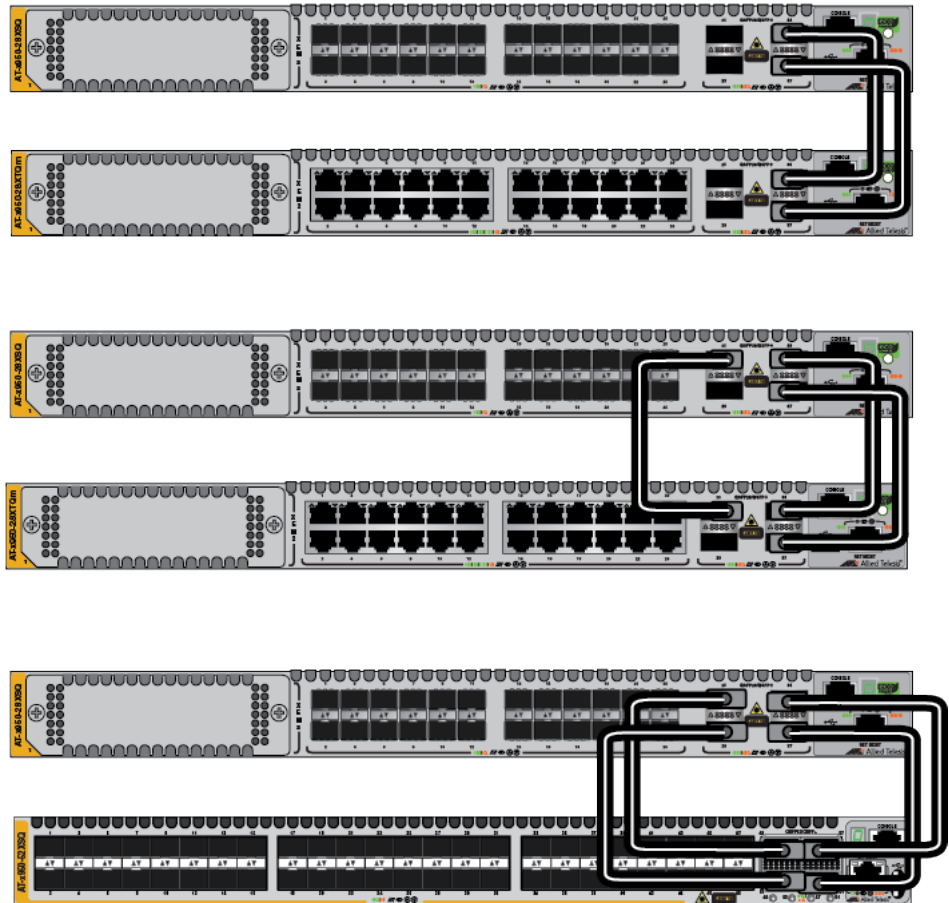

Figure 30. Stack Trunk Examples of Two Switches with Trunk 40Gbps Links
- ❑ For stacks of two switches, you can use two, three, or four ports per switch for trunks. Examples are show in Figure 30.